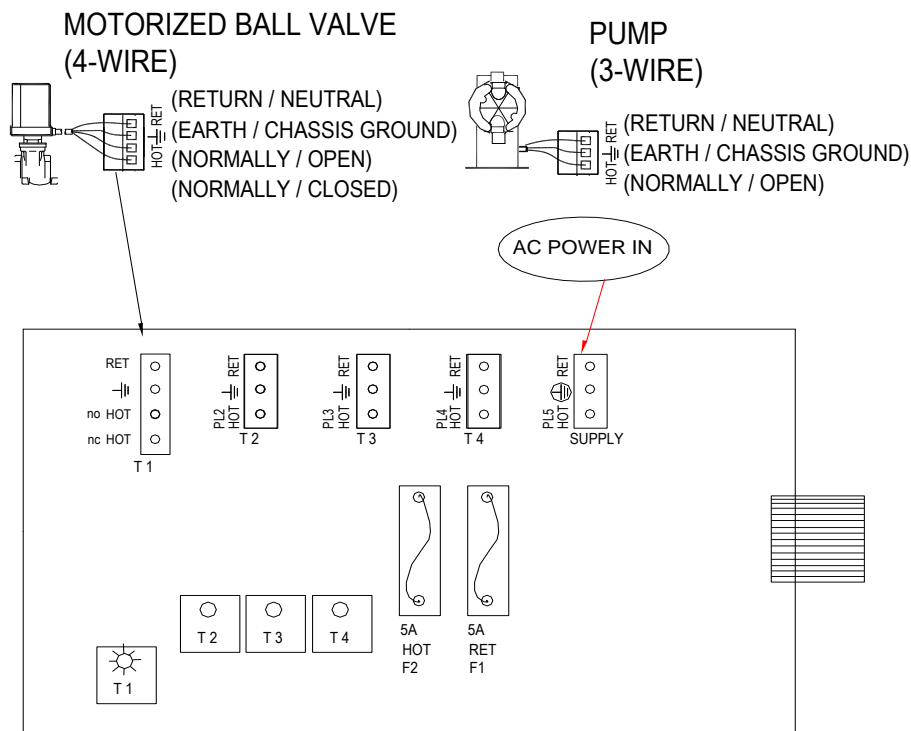

Fig. 4
Conduit controllers have openings for conduit connections for hard wiring. (See Fig. 4) for input and output power connections. Use only 18 AWG (1,2 mm2) stranded wire for conduit power and load connections. Supply (input) power is connected via **PL5** located on the relay board (Fig. 4). The top part of this terminal block is removable to allow for easy access to the connector's three (3) screws.